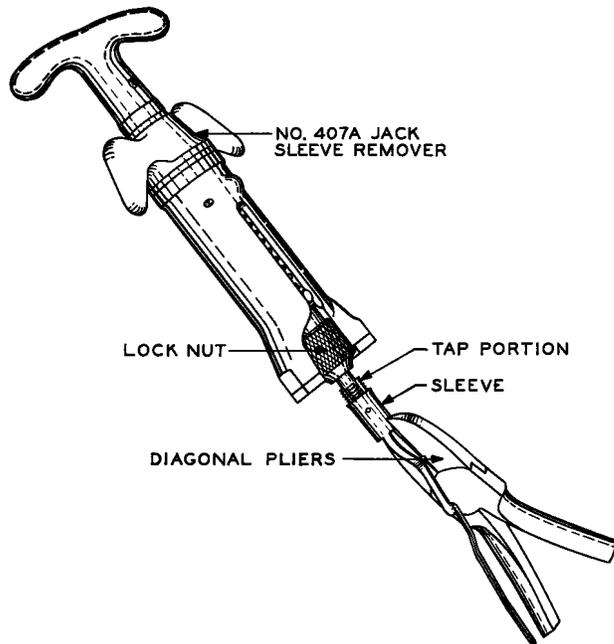

Fig. 11 – Method of Removing Sleeve From 407A Sleeve Remover
3.21 To remove the sleeve from the tap portion of the 407A sleeve remover, back off the locknut and remove the sleeve by grasping it firmly with the diagonal pliers as shown in Fig. 11. Turn the tap in a counterclockwise direction until the sleeve has been removed.